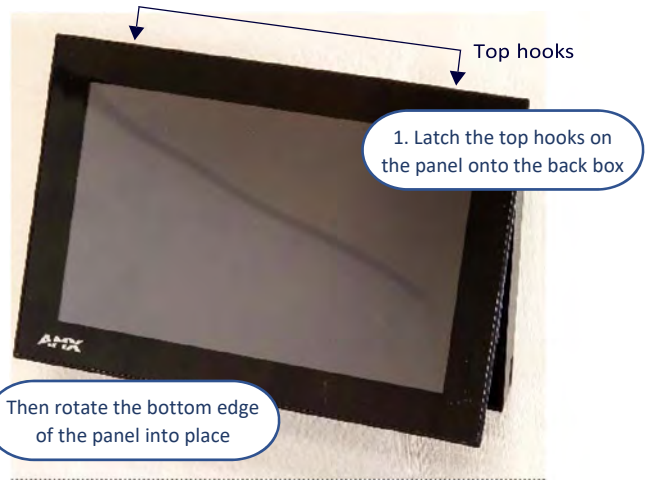

FIG. 7 HOOKING THE TOP OF THE TOUCH PANEL ON THE BACK BOX.
11. Latch the panel onto the top hooks on the back box and rotate it down (FIG. 7).